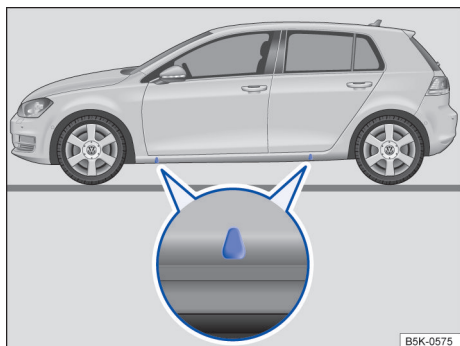

Fig. 187 Lift points for the jack.
The jack must be positioned at one of the 4 lift points located behind the markings on the vehicle body (2 on each side as shown in → fig. 187). You must use the lift point closest to the wheel being changed → ⚠.
3. *Automatic or DSG transmission:* Shift the transmission to Park (P) → page 149, *Automatic or DSG® transmission selector lever*.
9. Find the jack lift point → fig. 187 on the vehicle frame that is closest to the wheel to be changed.